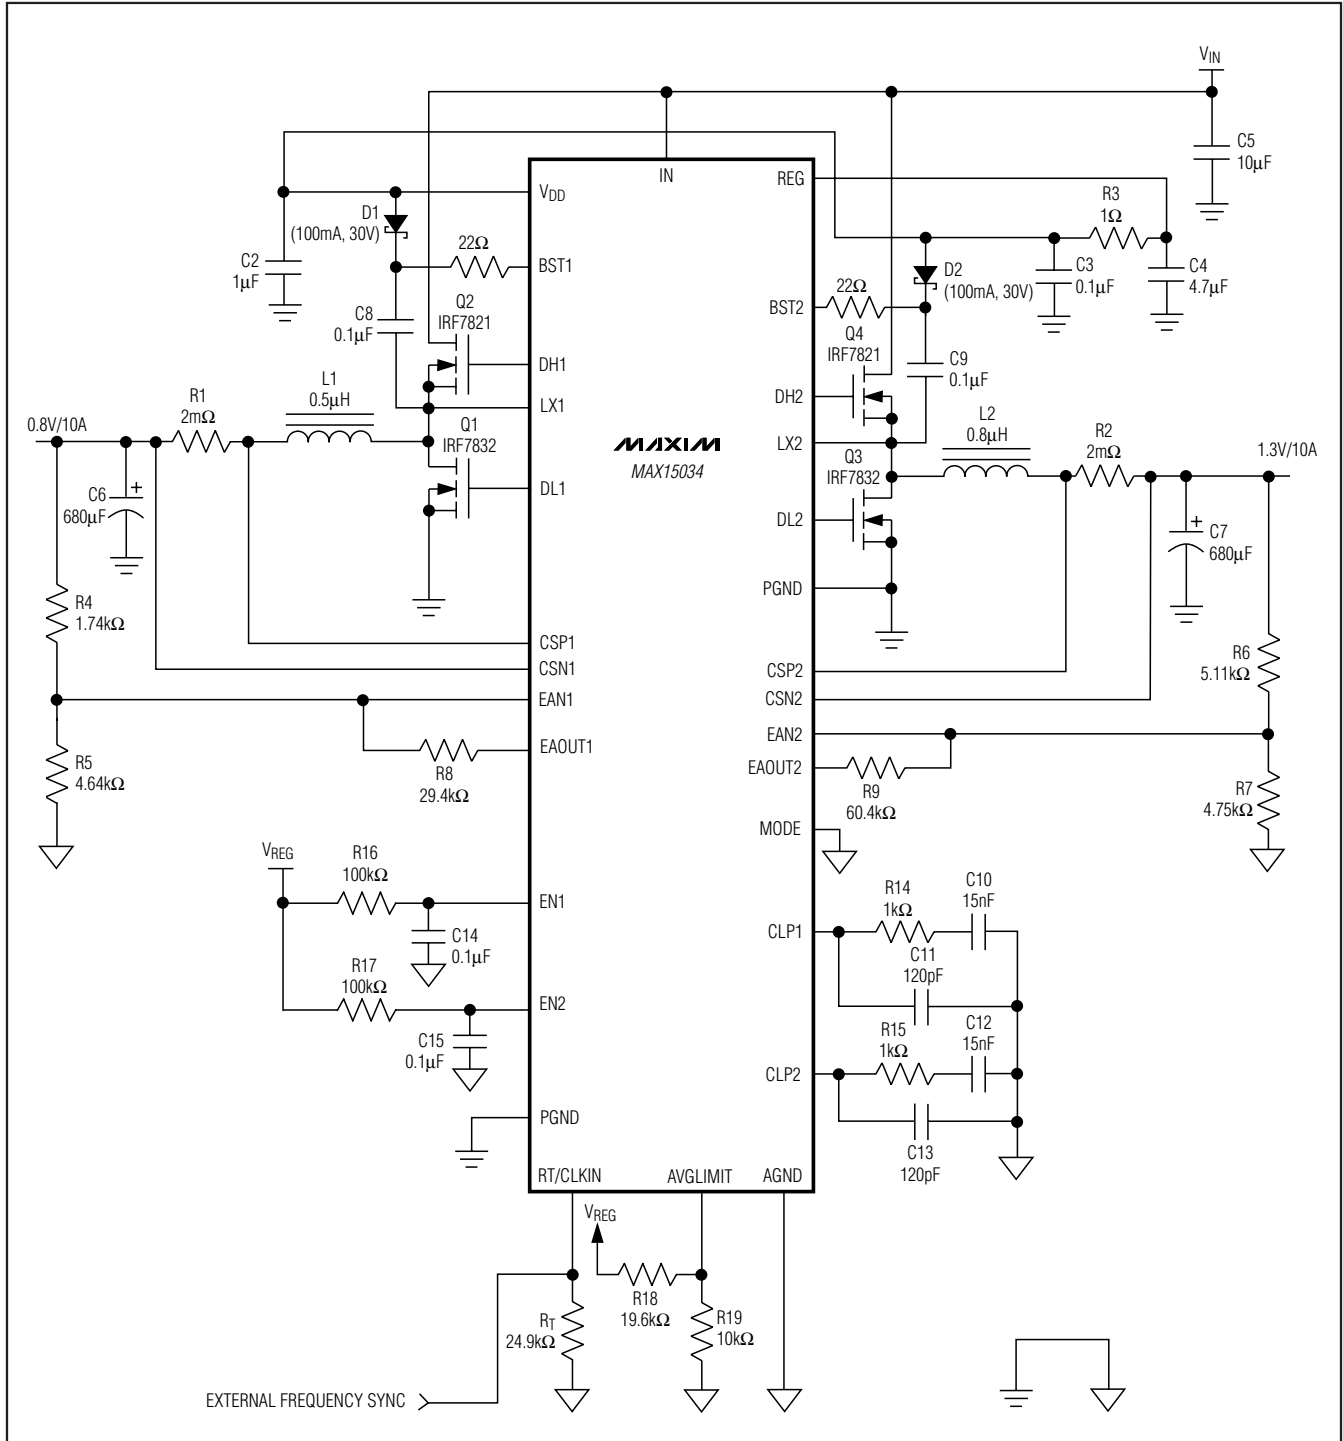
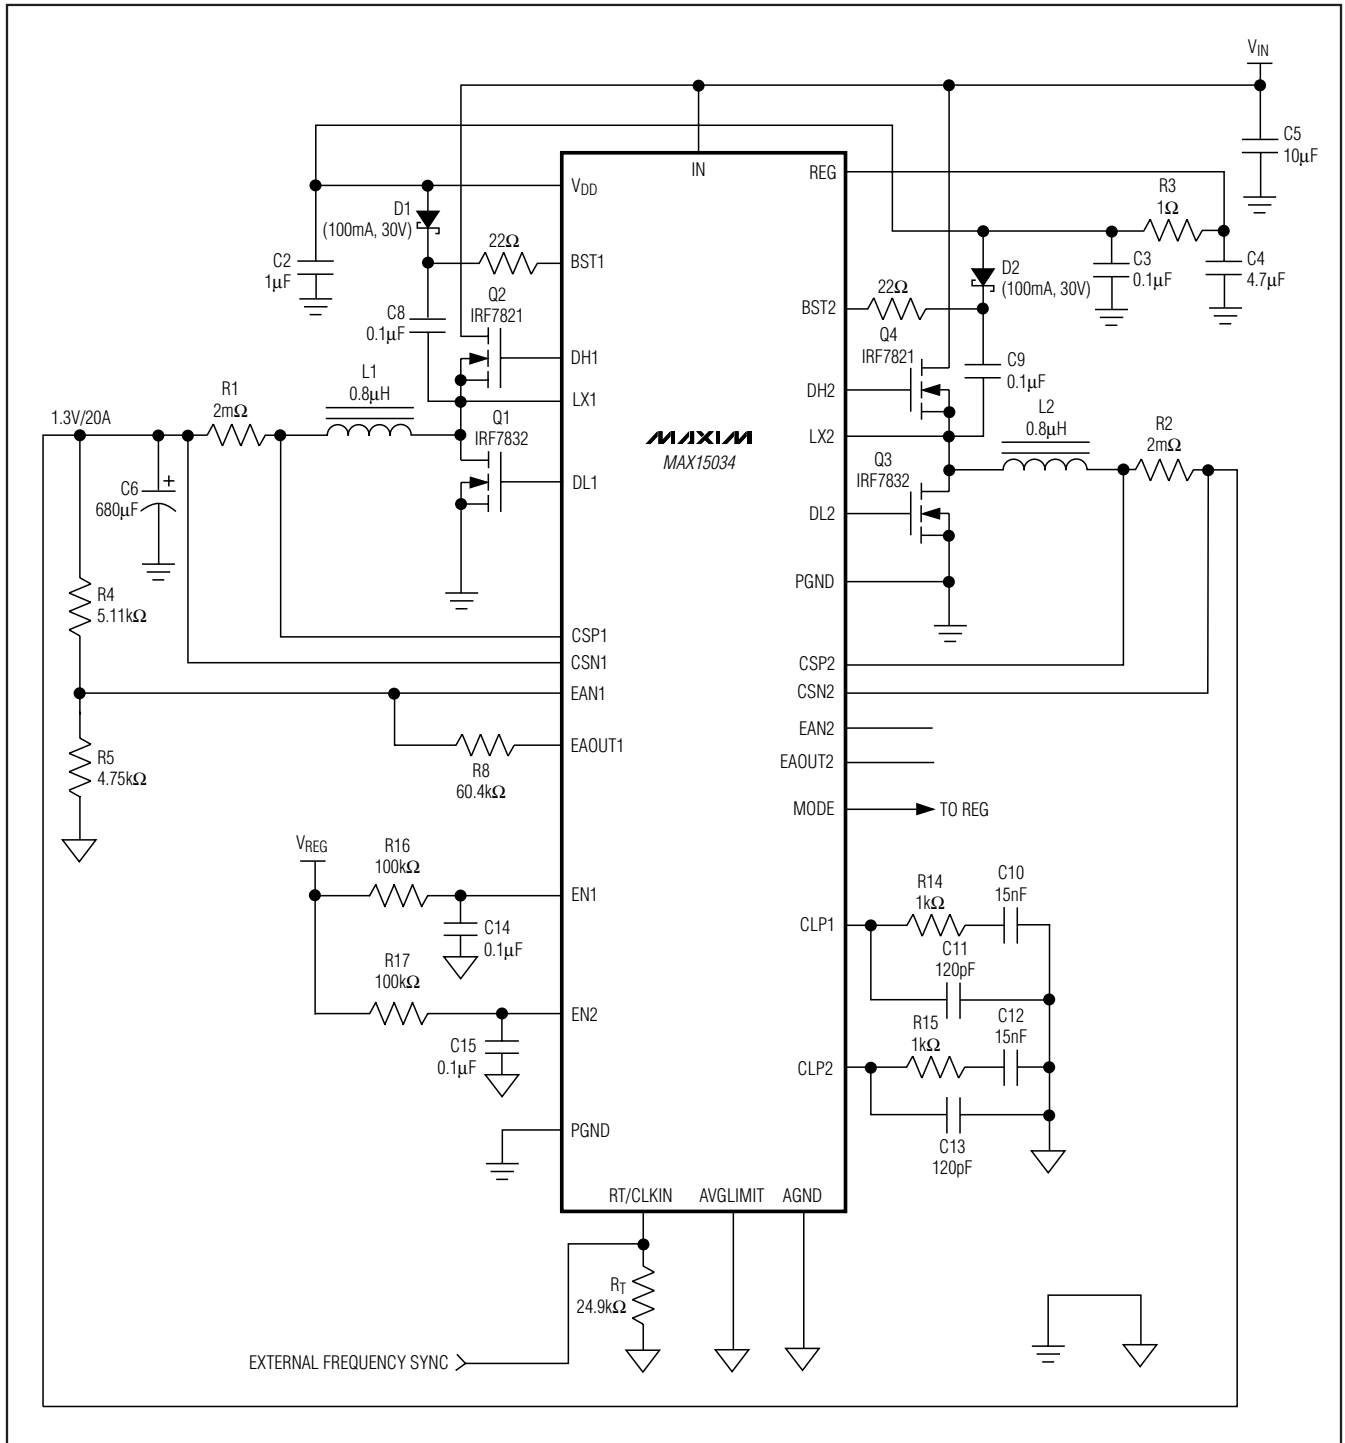

Figure 6. Dual-Output Buck Regulator
Figure 7. Dual-Phase, Single-Output Buck Regulator
where IIN is the quiescent supply current into IN (4mA, typ), QGQ1, QGQ2, QGQ3, QGQ4 are the total gate charges of MOSFETs Q1 through Q4 at VGS = 5V (see Figure 6), and fsw is the switching frequency of each individual phase.
BST1 and BST2 supply the power for the high-side MOSFET drivers for output 1 and output 2, respectively. Connect BST1 and BST2 to VDD through rectifier diodes D1 and D2 (see Figure 6). Connect a 0.1μF ceramic capacitor between BST_ and LX_.
Minimize the trace inductance from BST_ and VDD to the rectifier diodes, D1 and D2, and from BST_ and LX_ to the boost capacitors, C8 and C9 (see Figure 6). This is accomplished by using short, wide trace lengths.
The compensation network at the current-error amplifiers (CLP1 and CLP2) provides an inherent soft-start of the output voltage. It includes (R14 and C10) in parallel with C11 at CLP1 and (R15 and C12) in parallel with C13 at CLP2 (see Figure 6). The voltage at the current-error amplifier output limits the maximum current available to charge the output capacitors. The capacitor at CLP_ in conjunction with the finite output-drive current of the current-error amplifier yields a finite rise time for the output current and thus, the output voltage.
An internal oscillator generates the 180° out-of-phase clock signals required for both PWM modulators. The oscillator also generates the 2Vp-p voltage ramps necessary for the PWM comparators. The oscillator frequency can be set from 200kHz to 2MHz by an external resistor (RT) connected from RT/CLKIN to AGND (see Figure 6). The equation below shows the relationship between RT and the switching frequency:
cycle is less than 50%, choose high-side MOSFETs (Q2 and Q4, Figure 6) with a moderate $R_{DS(ON)}$ and a very low gate charge. Choose low-side MOSFETs (Q1 and Q3, Figure 6) with very low $R_{DS(ON)}$ and moderate gate charge. The driver block also includes a logic circuit that provides an adaptive nonoverlap time (30ns typ) to prevent shoot-through currents during transition. Figure 7 shows the dual-phase, single-output buck regulator.
where I_{MAX} is the full load current of the regulator. V_{OUT} is the output voltage of the same regulator and C_{IN} is C5 in Figure 6. The ESR of the input capacitors wastes power from the input and heats up the capacitor. Reducing the ESR is important to maintain a high overall efficiency and in reducing the heating of the capacitors.
where I_{LOAD_STEP} is the step in load current and $t_{RESPONSE}$ is the response time of the controller. Controller response time depends on the control-loop bandwidth. C_{OUT} is C6 and C7 in Figure 6.
where ΔV_{OUT} is the allowable drop in voltage from no load to full load. R_F is R_8 and R_9 , R_1 is R_4 and R_6 , R_2 is R_5 and R_7 in Figure 6.